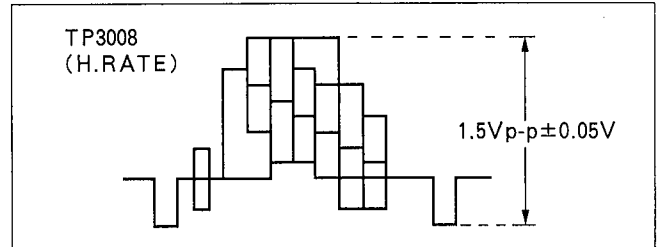

Figure E5
2. Adjust VR3001 so that the level becomes 1.5Vp-p \pm 0.05Vp-p as shown in Figure E5.